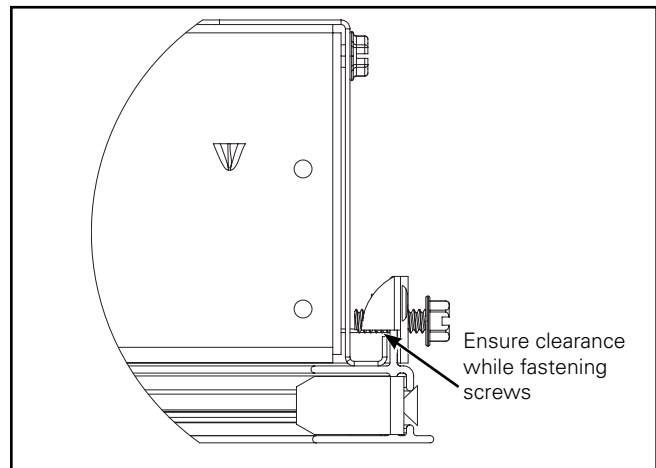

Figure 3.
3. You may need to lift up on the door frame while fastening each screw to ensure clearance between the screw and the housing lip (see Figure 3).